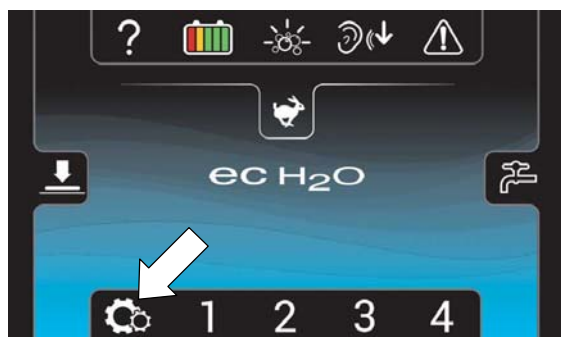

FIG. 116
2.  Press the settings button located on the home screen (Figure 116).